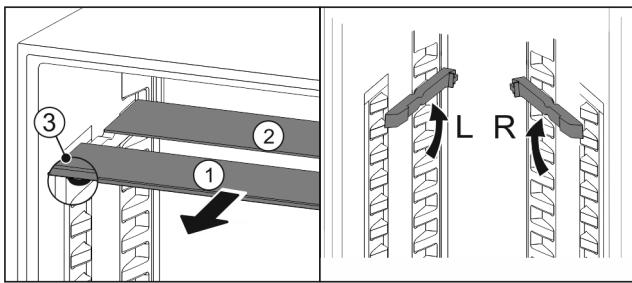

Fig. 70
- ▶ Pull the glass panels out *Fig. 70 (1)* from the front, one at a time.
- ▶ The glass panel *Fig. 70 (1)* and trim strip are at the front.
- ▶ The stops *Fig. 70 (3)* point down.